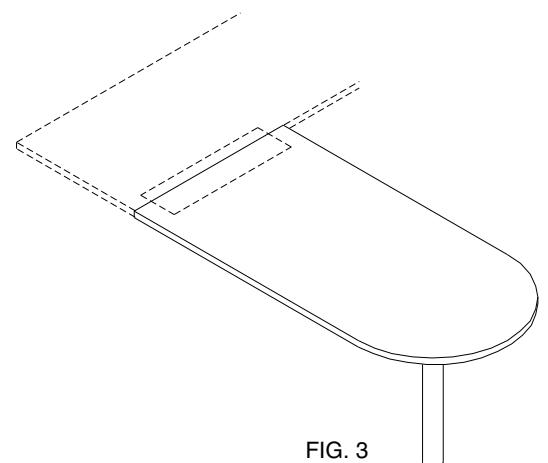

FIG. 3
1. When the square end of a “D” worksurface is to be attached to an adjacent worksurface (Figure 3), you will use the large splice plate and screws that are included with the worksurface. The “D” worksurface is pre-drilled to accept the splice plate. Due to the wide variety of locations where the “D” worksurface might be attached to the adjacent worksurface, pilot holes will need to be drilled once the final location is determined. Pilot holes should be  $\frac{3}{16}$ ” dia. x  $\frac{5}{8}$ ” deep.